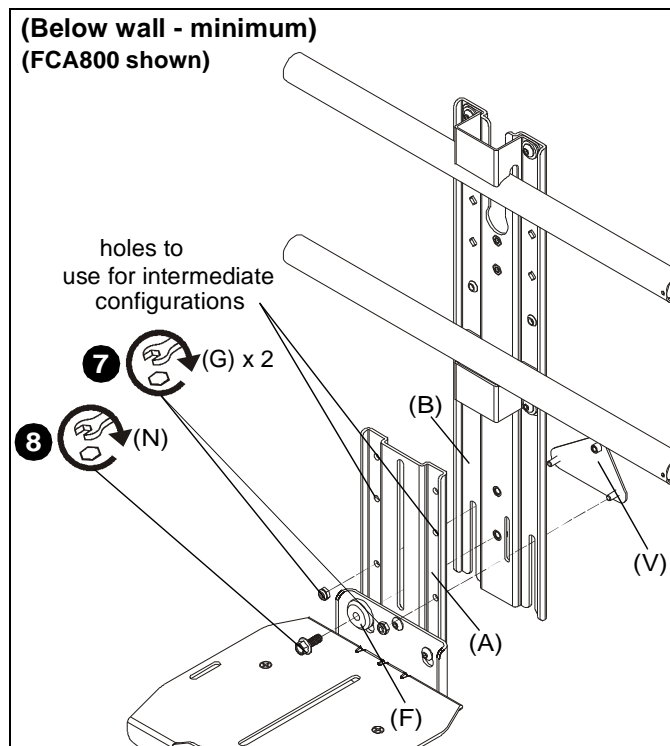

Figure 7
7. (For **minimum/intermediate extension**) Use two #10-24 lock nuts (G) to secure upright bracket (A) to main bracket (B) and adapter plate (V). (See Figure 7)
8. (For **minimum/intermediate extension**) Use 1/4-20 x 5/8" hex head flange bolt (N) and center washer (F) to secure upright bracket (A) to main bracket (B). (See Figure 7)